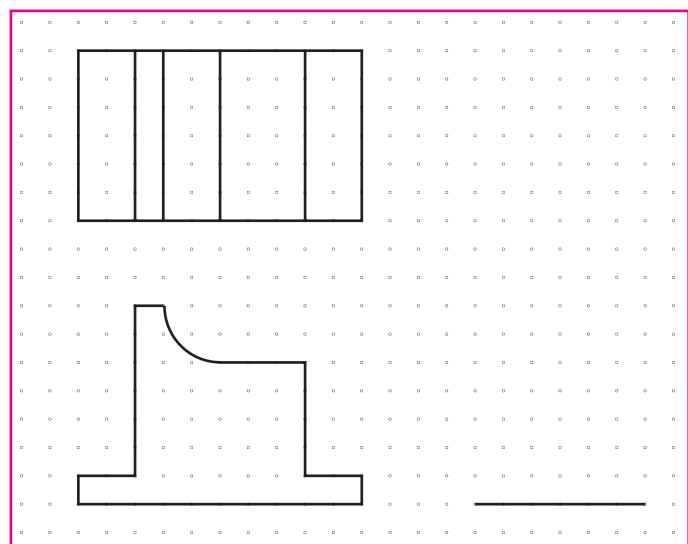

Fig. 12-17
2. Create the front and top views of the object shown in Fig. 12-17. Then, using the horizontal line to the right of the front view as a basis, complete the right-side view of the block.